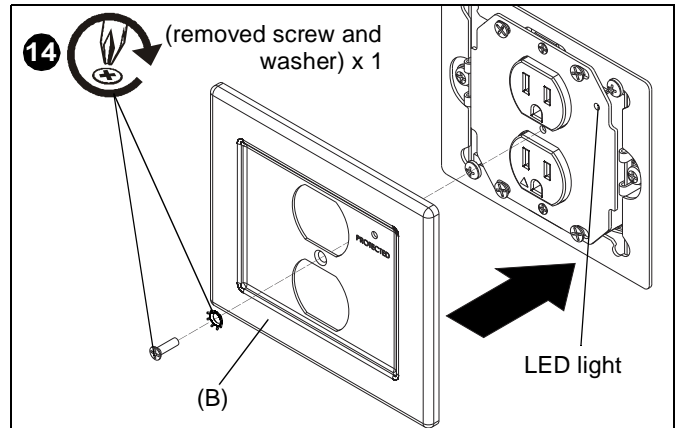

Figure 16
14. Install faceplate (B) onto EGX-SF2 using one Phillips flat head screw and locking washer removed in Step 5. (See Figure 16)
NOTE: Make sure LED light on outlet box lines up with hole location on faceplate (B). (See Figure 16)